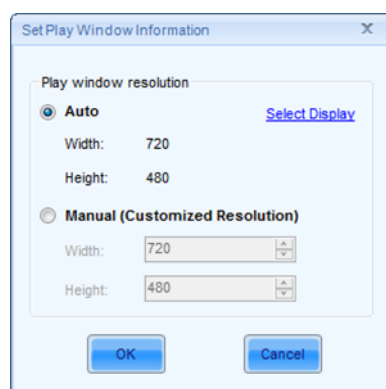

Fig. 11-3 Play window information
1) Click  on the interface shown in Fig. 11-3 to enter setting interface of Offline export.